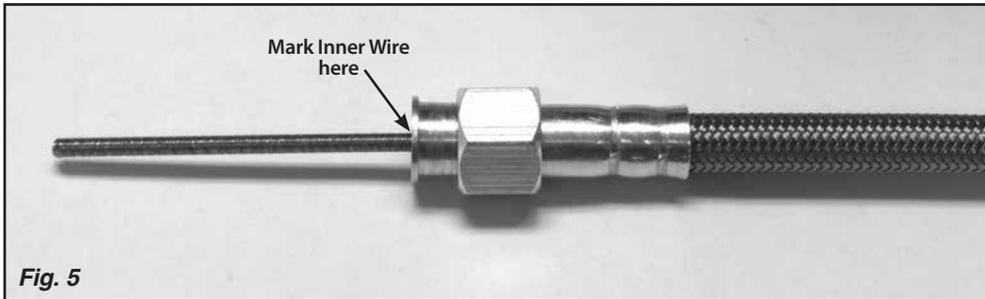

Fig. 5
**Step 7:** Route the cable housing back up to the speedometer. At the speedometer head, mark the inner wire flush with the end of the speedometer end fitting. **Fig. 5** Remove the inner wire from the cable housing.